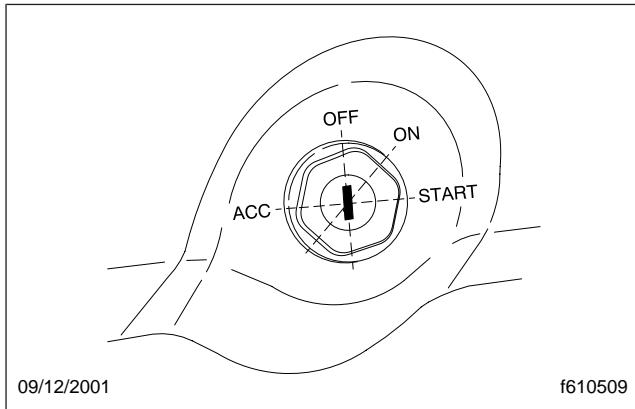

Fig. 16.7, Ignition Switch Positions
4. Ensure that the transmission shift control is in Neutral (N), Park (P), or the Park Brake (PB) position.
- Without starting the engine, turn the ignition switch to the ON position (Fig. 16.7). The electronic gauges on the instrumentation control unit (ICU) will complete a full sweep of their dials, the warning and indicator lights will illuminate, and the buzzer will sound for three seconds.